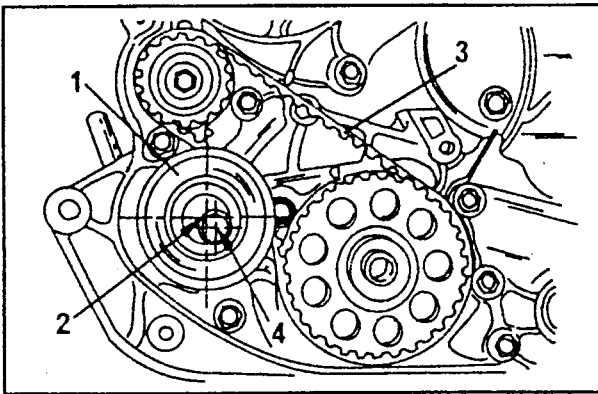

Fig. 152. — Fitting the tensioner pulley for the small timing belt.
- Fit the belt tensioner. The centre point of the tensioner pulley must be located at the left-hand side of the mounting bolt. The pulley flange must be directed towards the front of the engine. Fig. 152 shows the tensioner pulley in fitted position.